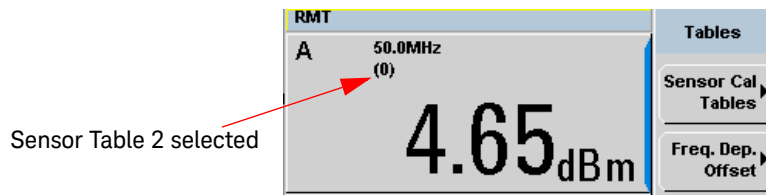

Figure 7-7 Frequency dependent offset indicator
- 4 Press **Done** again to display the measurement screen. Figure 7-7 shows which offset table is selected.